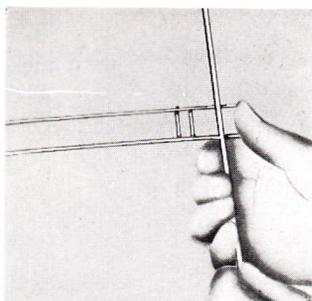

Fig. 12
- e. Take out the yarn guide from the carrying case, and attach it on the rod about half height. (See Fig. 12)